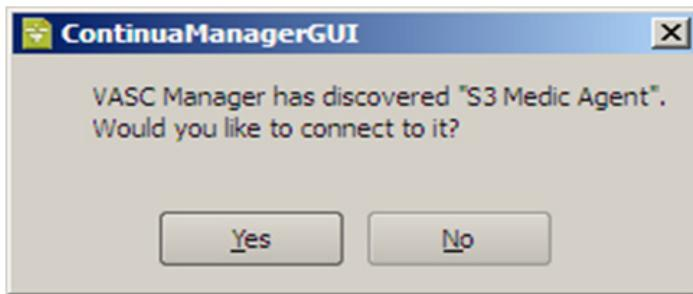

Figure C-6. Connect to S3 Medic Agent
5. S 3 Medic Event connection confirmation pop-up appears as shown in the Figure C-6. Click on the **Yes** button to continue.